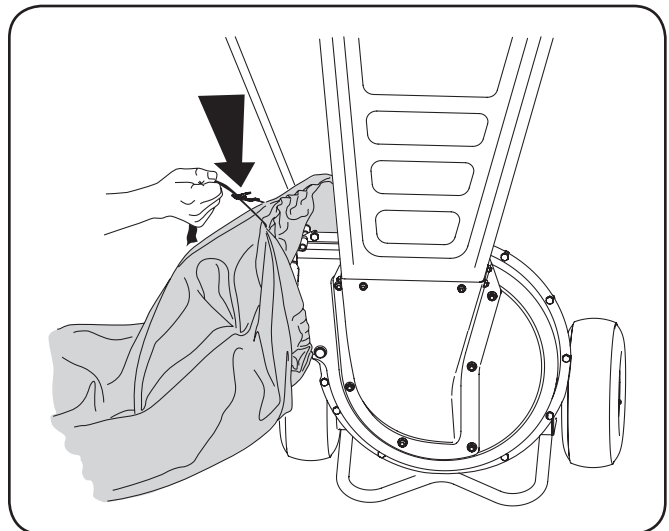

Figure 5-3
2. Squeeze the locking buckle to release the bag's drawstrap before loosening it from the chute deflector. See Fig. 5-3.